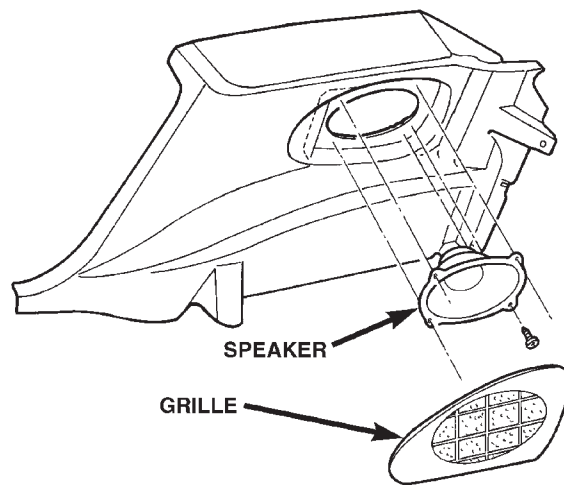

Fig. 10 Rear Speakers
- (1) Remove rear quarter panel trim grille.
- (2) Remove four retaining screws (Fig. 10).
- (3) Disconnect wire connector and remove speaker.